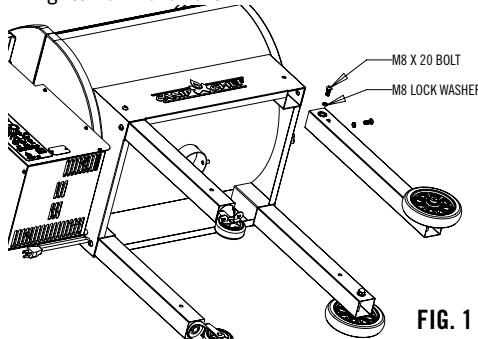

FIG. 1
2. Install each of the 4 legs as shown in Fig 1.